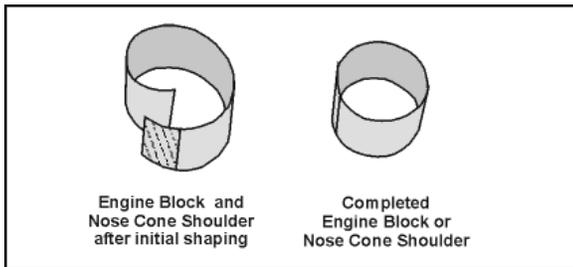

Figure 11
- Cut out the **Engine Block** and the **Nose Cone Shoulder**. Curl both items as done earlier. The patterns should look like that shown on the left of **Figure 11**. Apply a bead of glue to the glue tab and glue the Engine Block and Nose Cone Shoulder as shown at the right. **NOTE:** Check that both components fit inside the Body Tube before the glue dries.